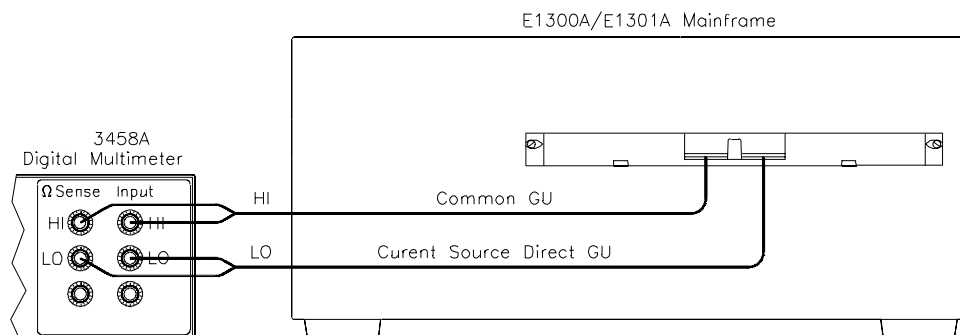

Figure 2-8. Chs 08-15 and 91-92 GU Measurements Connections
- Connect DMM leads as shown in Figure 2-8